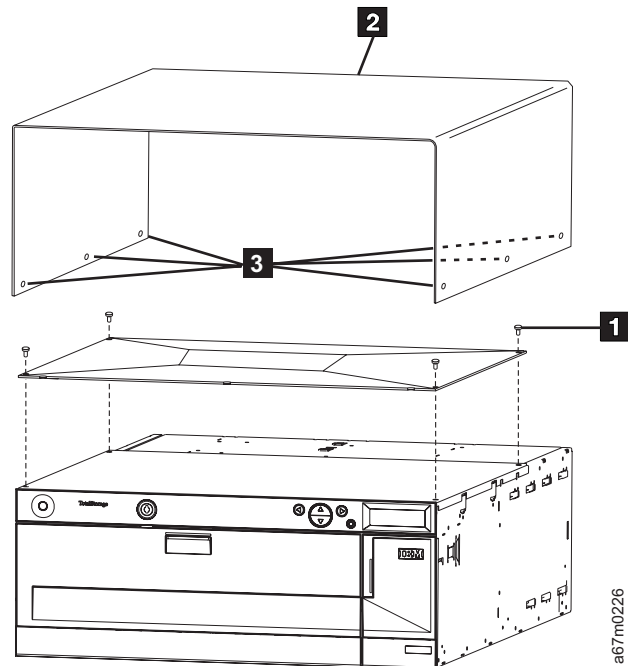

Figure 27. Attachment of protective plate and cover
- ___ 2. Attach the screws through the protective plate into the base unit (**1** in Figure 27).
- ___ 3. Lower the cosmetic cover (**2** in Figure 27) down onto the library. Slightly spread the sides and lower the cover onto the library. Using a #1 Phillips screwdriver, attach the cover by starting the six, small, black screws (3 per side) from the outside of the cover (**3** in Figure 27). Adjust the cover, if necessary, then tighten the screws.